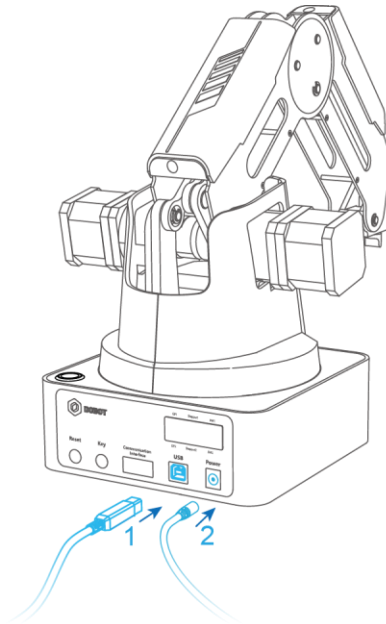

Figure 3.1 Connect the Dobot Magician to your computer
- Step 1** Connect the Dobot Magician to your computer with the supplied USB cable, as shown in Figure 3.1.
- Step 2** Connect the Dobot Magician to the power source with the supplied power adapter, as shown in Figure 3.1.